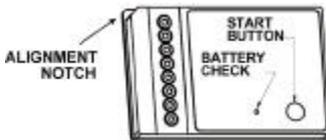

Figure 22
2. Turn on the light plate by briefly pressing on the “Start” button. Insert it into the sample tray with the proper plate placement. (Proper plate placement is the alignment notch corner of the light plate to the right rear of the sample tray. See Figure 22). Click “OK”.